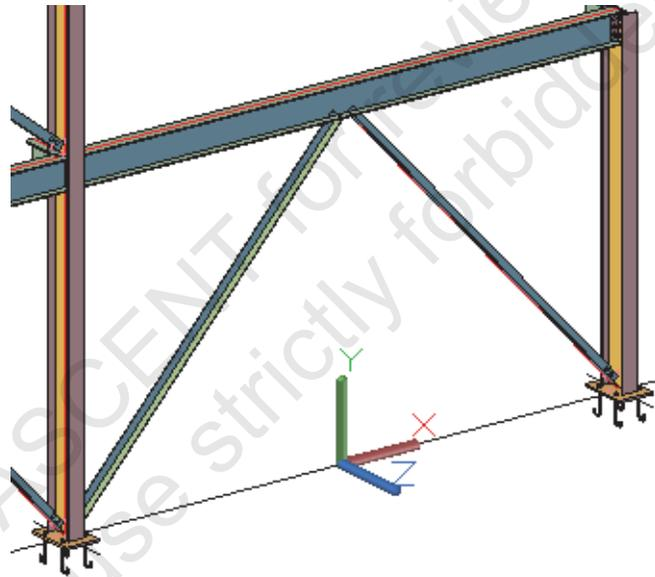

**Figure 1-54**
8. Use grips and the Node object snap to angle the columns as shown in Figure 1-54.